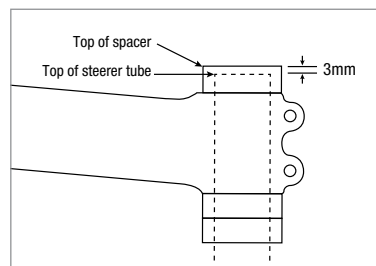

Figure 8
**NOTE:** After cutting, the steerer tube must be 3mm below the 10mm spacer to allow top cap installation (Fig. 8). Refer to the two different directions below for cutting either carbon or alloy/steel.